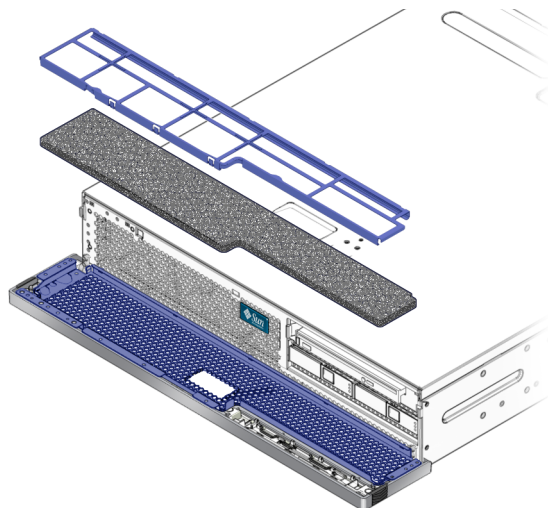

FIGURE 2-2 Installing the Air Filter in the Bezel
4. Snap the new air filter into place in the bezel (FIGURE 2-2).